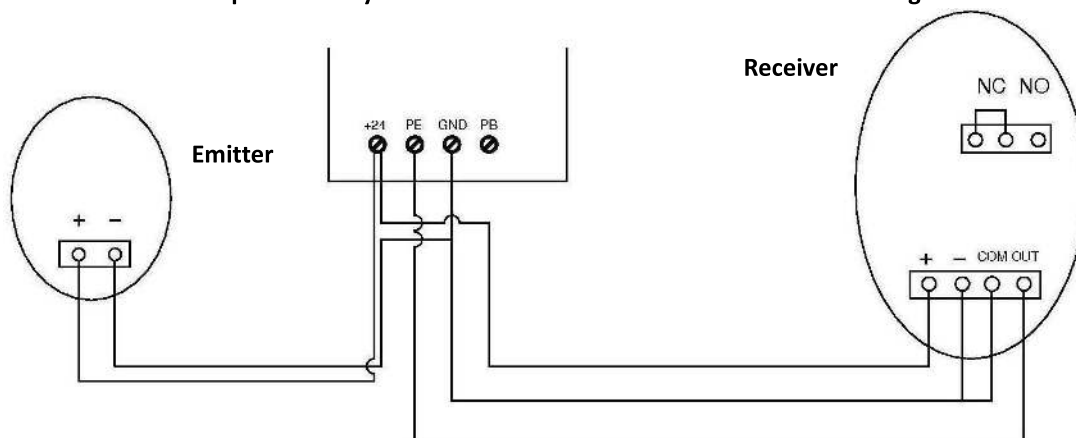

Fig.26
- 25.5 Using 3 Core Cable, strip back and connect 2 strands to the Emitter and 3 strands to the Receiver. (Fig.26)
- 25.7 Strip back and connect one strand of each cable to the terminals marked "24V", "PE" & "GND". (Fig.26)